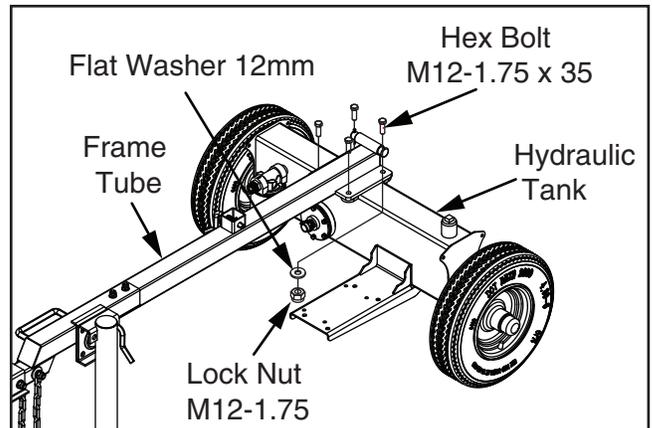

Figure 13. Installing frame tube onto tank.
7. Place frame tube onto hydraulic tank and attach it with (4) M12-1.75 x 35 hex bolts, (4) 12mm flat washers, and (4) M12-1.75 lock nuts, as shown in **Figure 13**.